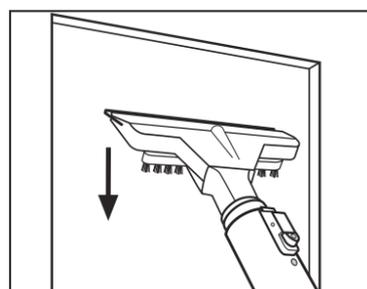

Fig. 11
- Press the rubber lip onto the windscreen and move the wiper. Move the wiper from top to bottom (**Fig. 11**).